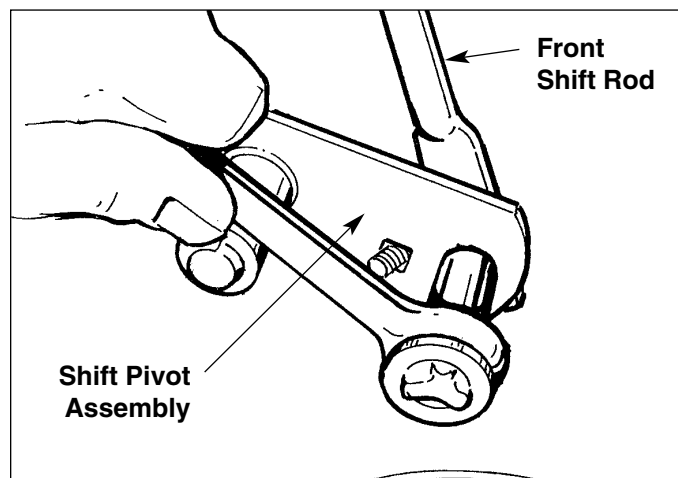

Figure C-21. Shift Pivot/Front Shift Rod Assembly
1. See Figure C-21. Remove the hex nut that secures the lockout lever to the shift pivot assembly. (See Figure C-23 for complete hardware details.)
1. See Figure C-21. Unscrew the hex nut and related hardware used to connect the shift pivot assembly to the front shift rod.